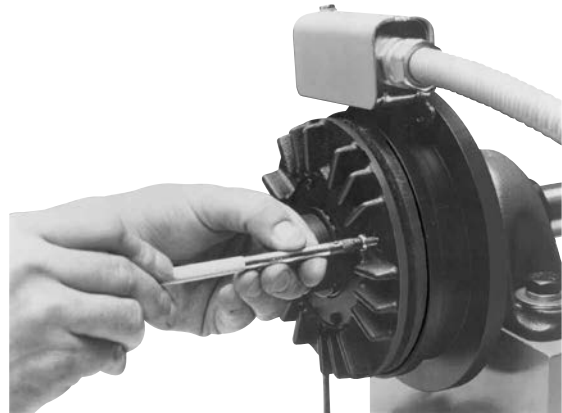

Figure 7
7. Attach the new friction material segments to the brake magnet or clutch rotor with the screws through the appropriate access holes. Apply one drop of Loctite®, (grade AA equivalent) to each screw. (See Figure 7) **Note:** Use only the screws included with the repair kit since any other screws may damage the unit. Tighten screws to 18 to 22 inch pounds torque.